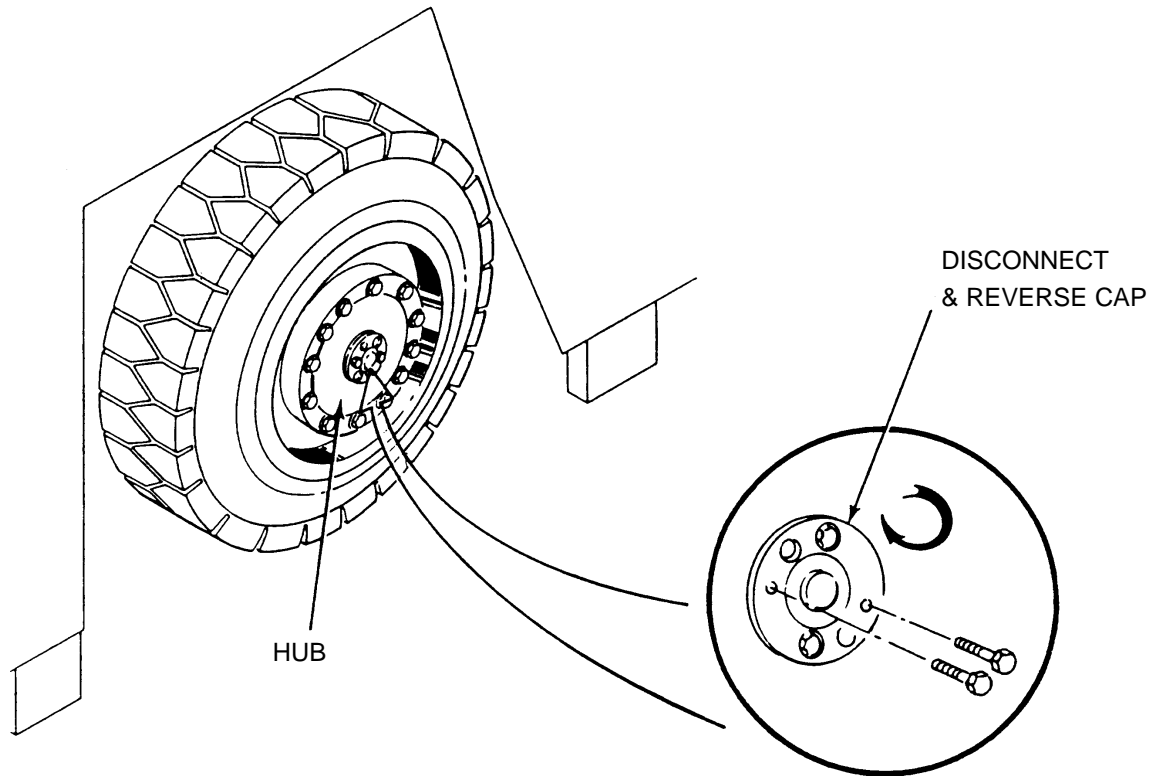

Figure 1
- B. Remove disconnect cap (Figure 1) on one hub by removing two screws and pulling cap away from hub.
- D. Repeat steps (B) and (C) above for other hub.